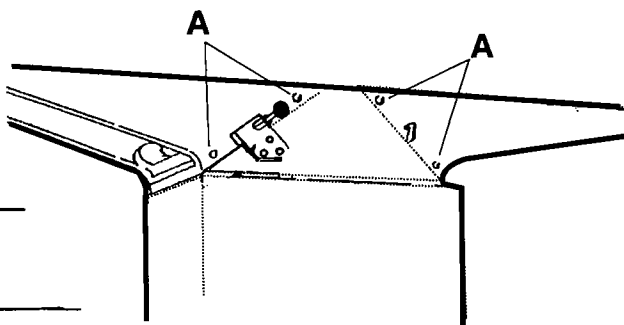

FIGURE 12
- Lightly loosen the gib adjusting screws A, Figure 12. By loosening the lock nuts first the set screws should be loosened enough to move the table.